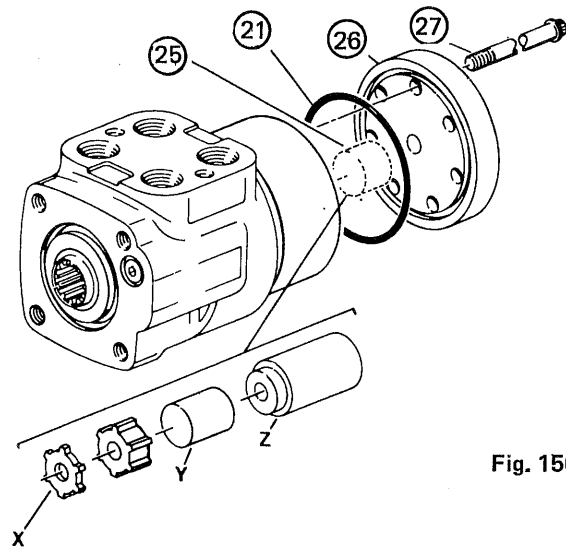

Fig. 150
(24) Put spacer (25) into rotor set (24) (Fig. 150).
(25) Install O-ring (21) in end cap (26) (Fig. 150).
(26) Place end cap (26) on rotor set (24), and align bolt holes.